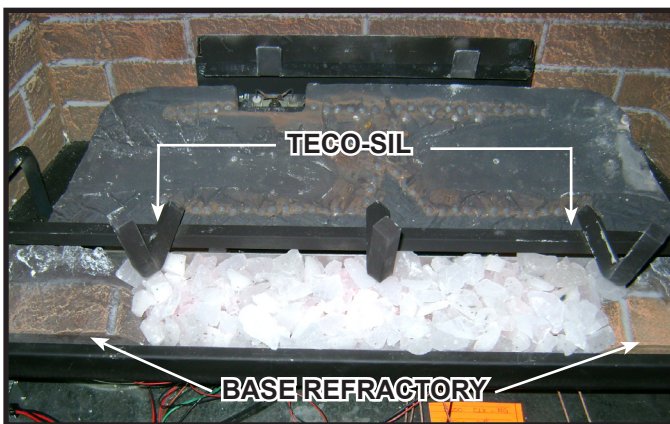

Figure 11.10 Placement of Teco-Sil
1. Pour Teco-Sil between the left and right base refractories as shown in Figure 11.10